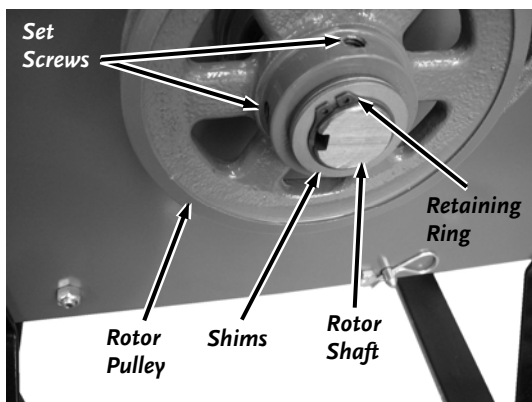

Figure 18
- c) Remove the two Set Screws with a 5/32" Allen Wrench (**Figure 18**).